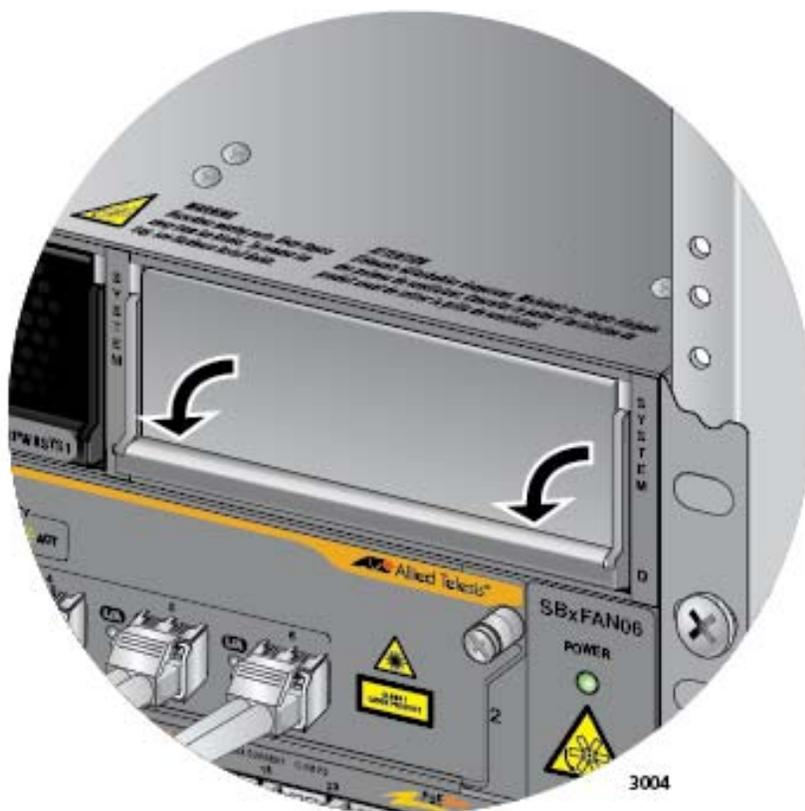

Figure 141. Lowering the Locking Handle on the Power Supply Slot Cover
6. Lower the locking handle to secure the slot cover in the slot. Refer to Figure 141 on page 210.